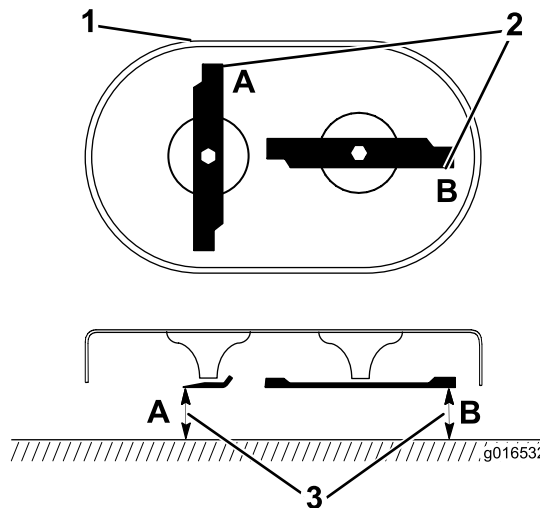

Figure 43
1. Rotate the blades to the position shown in Figure 43.
2. Measure from a level surface to the cutting edges at locations **A** and **B** (Figure 43), and record both dimensions.
3. Rotate the blades so that their opposite ends are at locations **A** and **B** (Figure 43).